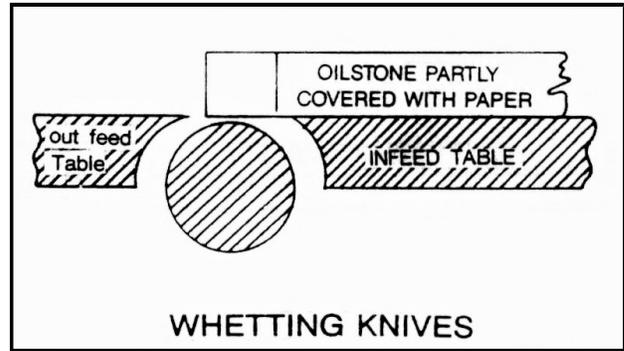

Fig. 21
2. Use a fine carborundum stone; cover it partly with paper as indicated as shown in Fig. 21 to avoid marking the table.